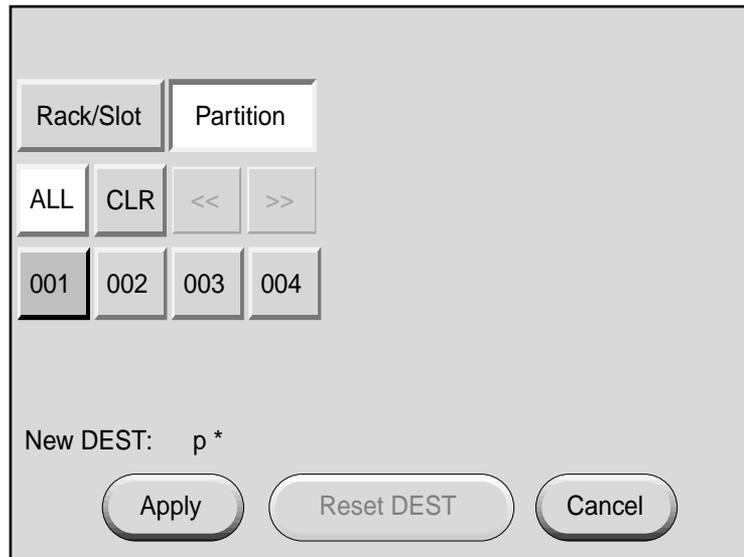

Figure 1-10 Partition Selection Window
4. If you want to power on a partition, select **Partition** from the destination selection window. The partition selection window, shown in Figure 1-10, appears.